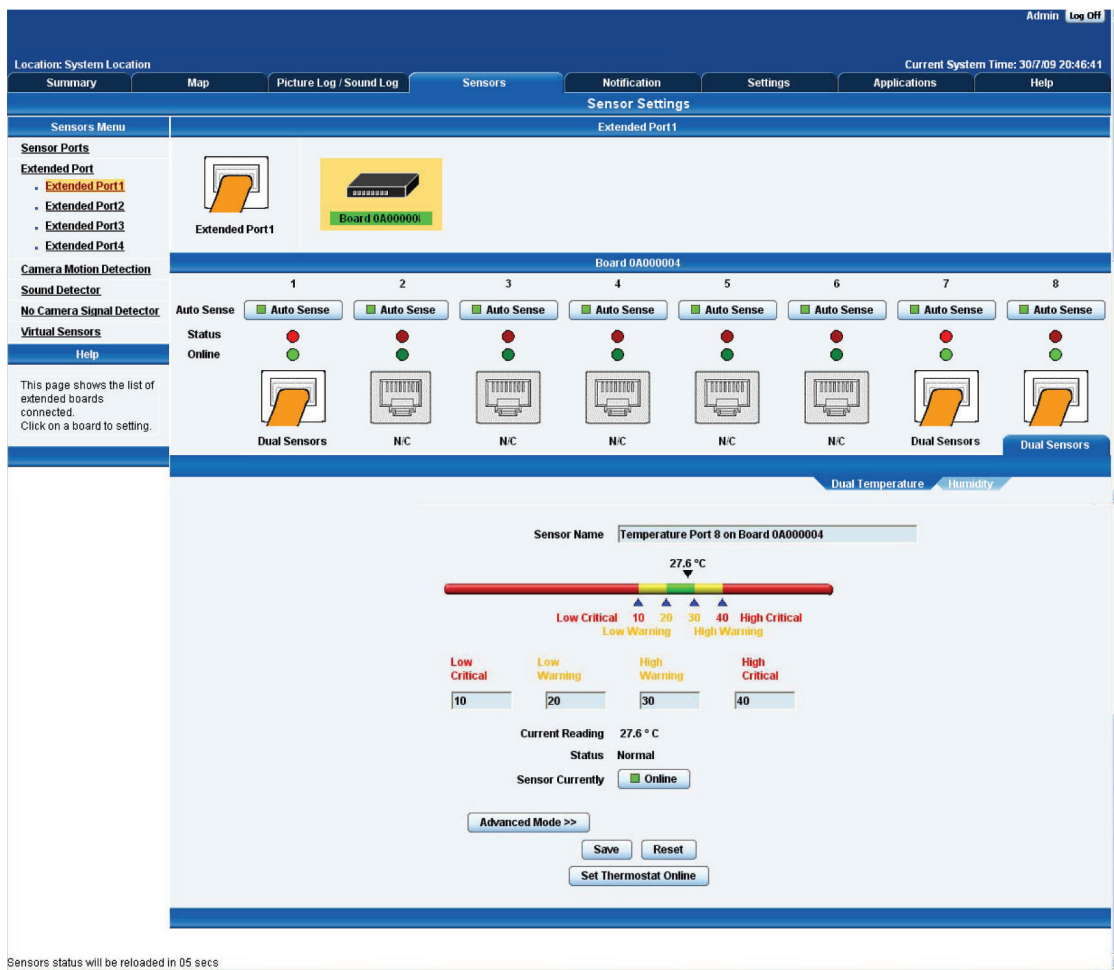

Figure 3-54. Notification Thresholds page.
5. Once you have clicked on the "Dual sensors" tab, you will be directed to the familiar-looking Notification Thresholds page (see Figure 3-54). From this page, you can carry out various operations as indicated in the sensor settings tutorials.